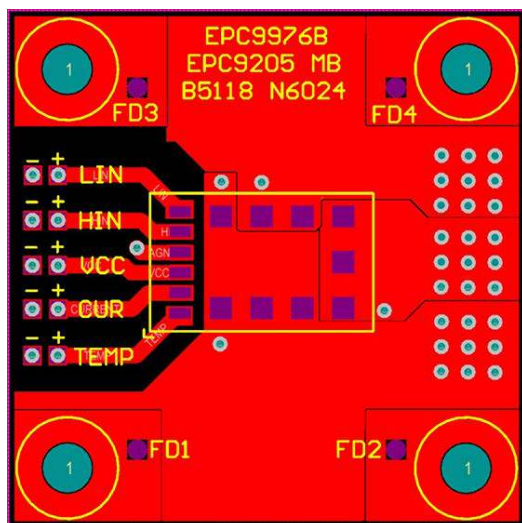

Figure 7: Top layer without filled thermal vias.
1. Large copper planes should be connected to the development board to improve thermal performance as shown in Figures 7 and 8. If filled vias are used in the board design, thermal vias should be placed under the device to better distribute heat through buried inner layers. For a design without filled vias, thermal vias should be located outside of the development board.